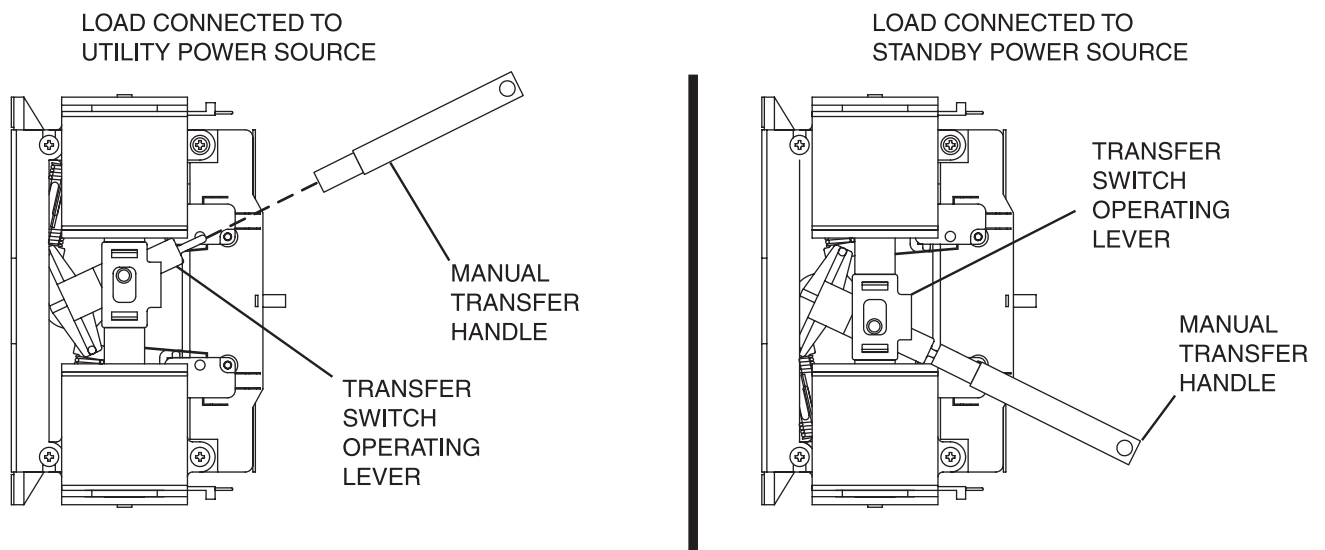

Figure 3. Manual Transfer Switch Operation
5. See Figure 3. Insert the un-insulated end of the handle over the transfer switch operating lever.
- b. If voltage is NOT present, repair wiring between terminal strip and transfer relay (TR).
7. Connect the positive (+) test lead to Wire 23 located in the J1 connector Pin Location 3, connected to the circuit board (see Figure 3, Page 4.1-2).
10. Connect the positive (+) test lead to Wire 194 located in the J1 connector Pin Location 4, connected to the circuit board (see Figure 3, Page 4.1-2).